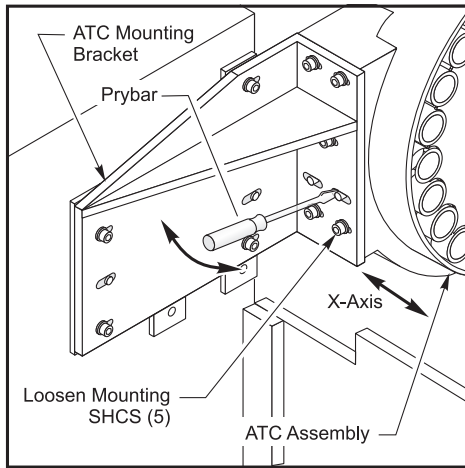

Figure 3.12-11 ATC Assembly X-axis alignment
5. If necessary, loosen the five ATC mounting SHCS. Refer to Figure 3.12-11.
6. Insert a pry-bar between the locating pins and the ATC mounting bracket. Adjust the bracket to align the tool holder in the double arm to the center of the spindle in the X-axis. Refer to Figure 3.12-11.